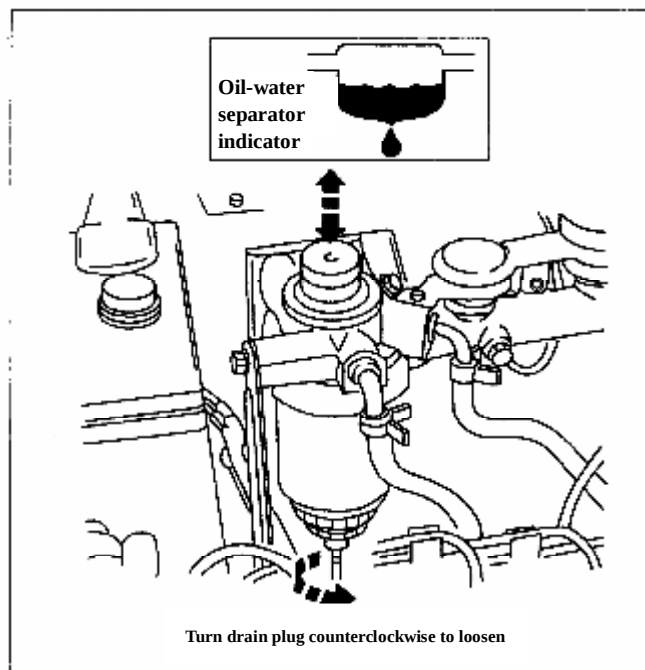

Figure 5-6 Drain water with oil-water separator
When water level inside oil-water separator reaches alarm level, water indicator in separator is lit. (See fig5-6).
- (1) Park vehicle in a safe and plane place.
- (2) Open engine hood, put a container (about 0.2L) at vinyl hose top below drain plug of oil-water separator.
- (3) Loosen drain plug counter-clockwise (about 5 turns, see fig.5-6). Operate hand pump in oil-water separator for about 10 times (See fig. 5-6) to drain water till oil-water separator is filled up with fuel.